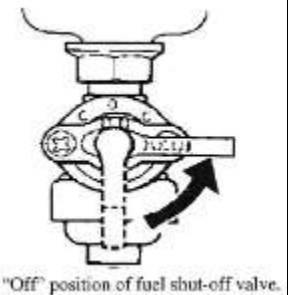

Figure 6
- i. Set the fuel shut-off valve to the "OFF" position during transport (Fig. 6)